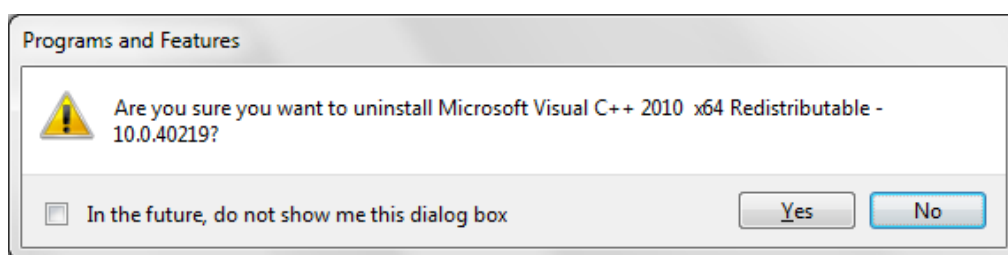

Figure III.1.5: Confirm uninstallation of Microsoft Visual C++ 2010 x64 Redistributables - 10.0.40219.
- Answer "Yes" to the asked question. See Figure III.1.5.